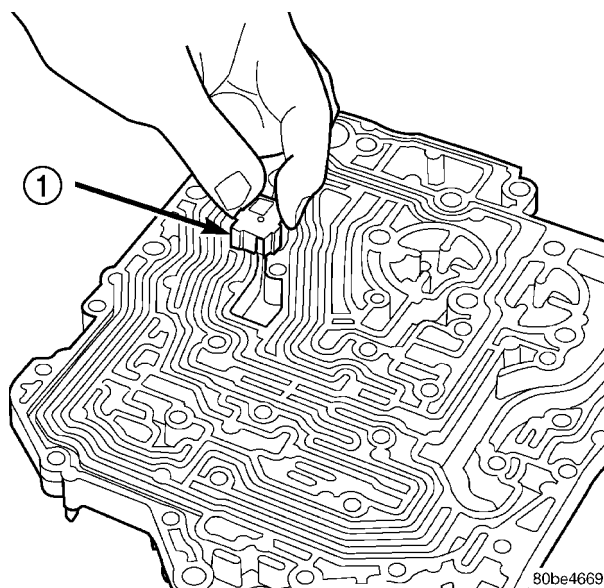

Fig. 327 Remove Thermal Valve
(11) Remove thermal valve (Fig. 327).